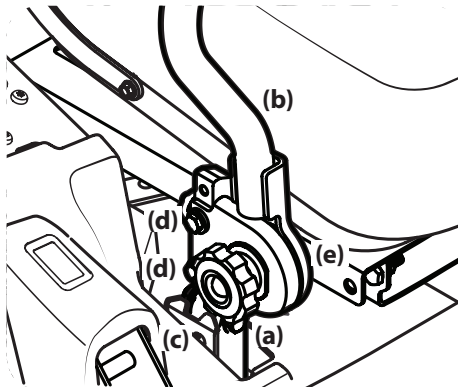

Figure 4-6
1. Loosen the drive control lever knobs (a) on the side of the drive control levers (b). See Figure 4-6.
3. Secure in place by tightening the drive control lever knob (a). See Figure 4-6.